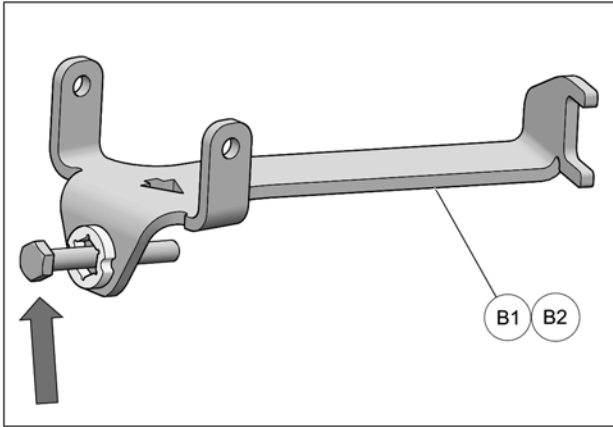

Fig. 4
4. Insert bolt in rear anchor bracket (**B1-B2**) as shown in Fig. 4